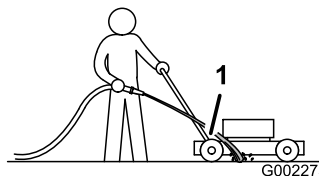

Figure 35
3. Hold the running garden hose at handle level and direct the water to flow on the ground just in front of the right, rear wheel (Figure 35).